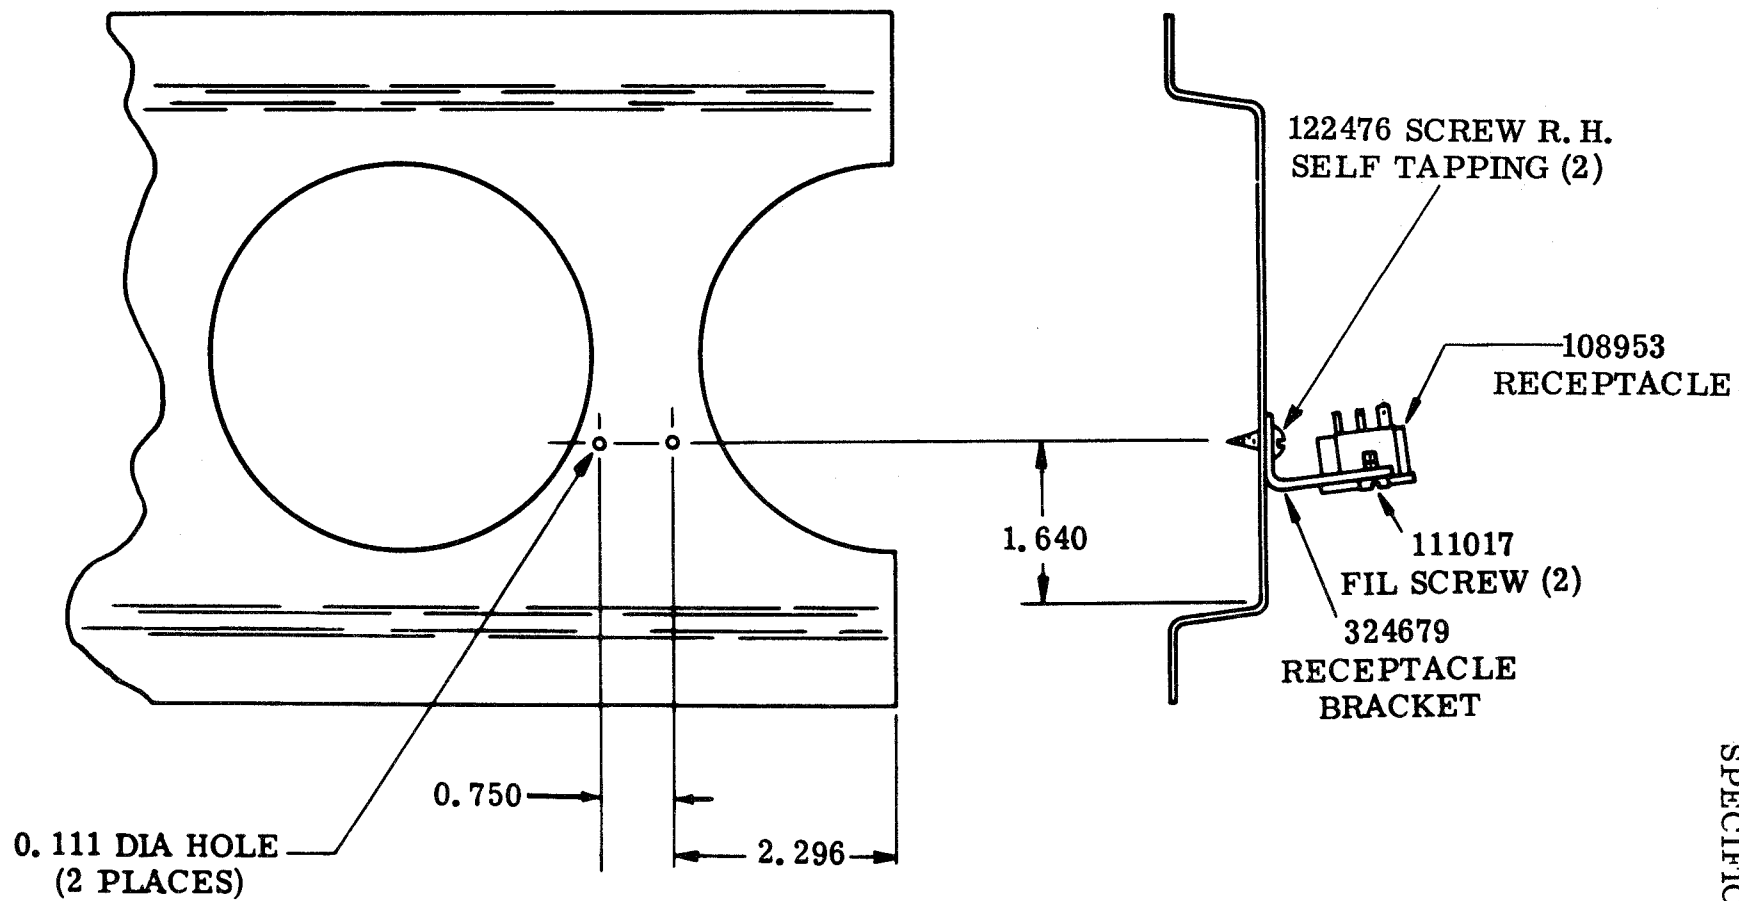

Figure 3 - Connector Bracket Mounting
- 3.06 It is necessary to drill or punch two 0.111 inch diameter (#34 drill) holes in the right side of the upper shelf reinforcing bracket. Refer to Figure 3 for dimension locations.
- 3.07 Install the 324679 receptacle bracket using the 122476 round head self-tapping screws, as shown in Figure 3.
- 3.08 Install the 108953 receptacle (part of the 326373 cable assembly) using the 111017 filister head screw as shown in Figure 3.